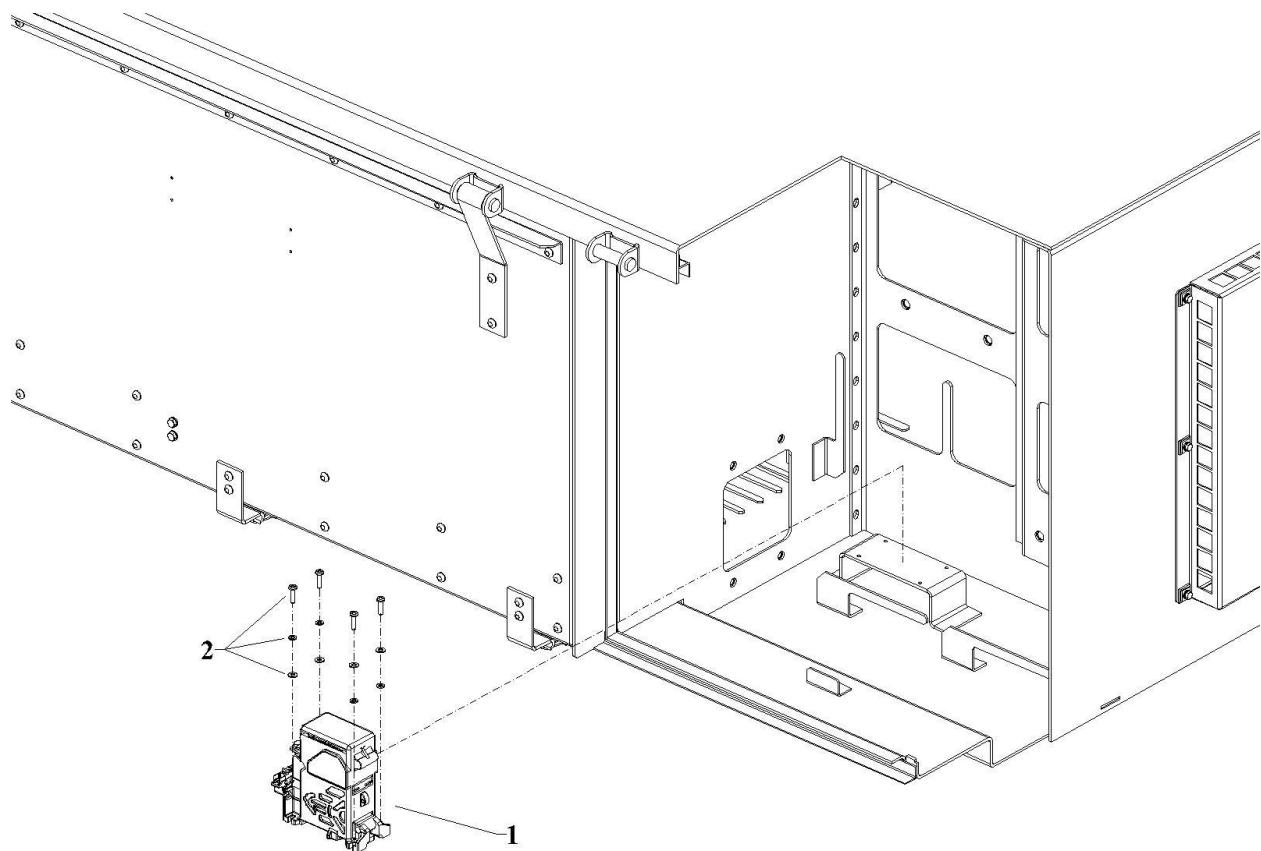

Figure 5-24: Line Charging Contactor Installation
2. The Line Charging Contactor (1) does not contain any serviceable parts (including contact tips). If it fails, replace with a new contactor.
4. Loosen the four M4 captive screws (2) as shown in Figure 5-24. The contactor can now be removed. Use a 7 mm socket.
1. Secure the replacement contactor to the equipment case frame with the four captive screws, flat washers and lock washers (2) as shown in Figure 5-24. Torque to 1.7 Nm (15 in-lbs. or 1.25 ft-lbs). Use a 7 mm socket.